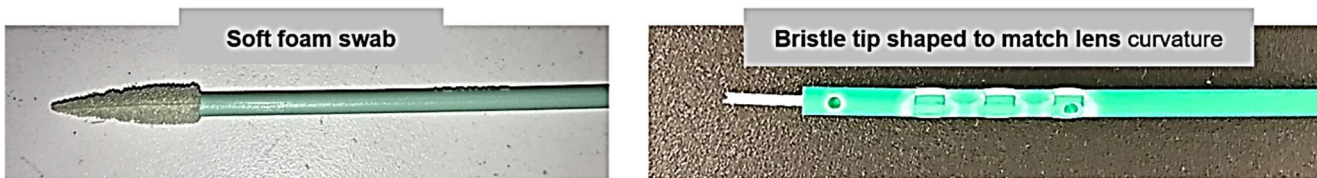

Figure 9.
2. If fluids have been spilled onto the lens, the surface can be cleaned using a soft cleaning swab or a bristle tipped cleaning stick either dry or moistened with isopropyl alcohol. Examples of commercially available cleaning sticks are shown in Figure 9.